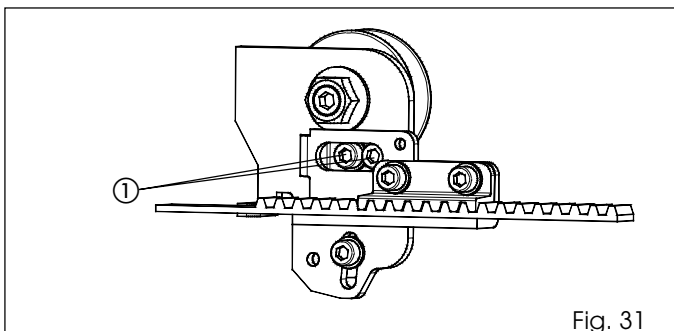

Fig. 31
- Loosen the two screws (fig. 31 ref. ①) on both carriages.